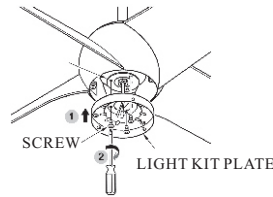

FIG. 17
2. Gently pull the wire through light kit plate. Align the three holes on light kit plate with light kit adapter. Then, tighten back the screws removed previously.(See fig.17)